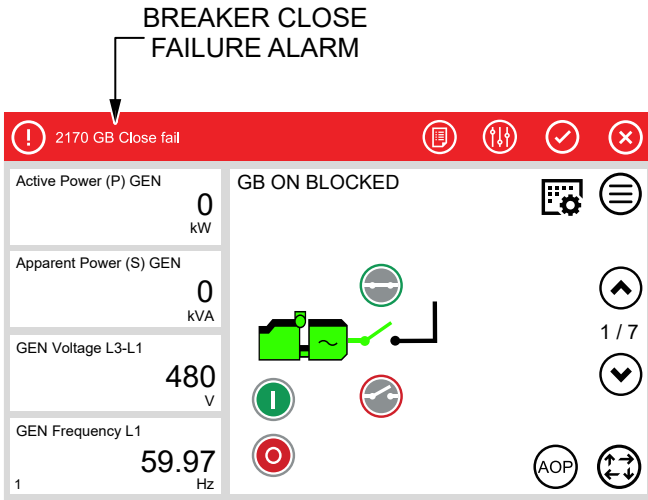

Figure 6. Breaker Close Failure Alarm
- A. If the **Breaker Close Failure** alarm appears on the controller screen (Figure 6), the **undervoltage release has been installed, and is functioning properly**. Shut down the generator as described in the operation manual and reconnect the **WHITE/BROWN** wire to terminal 11 on the DEIF controller.